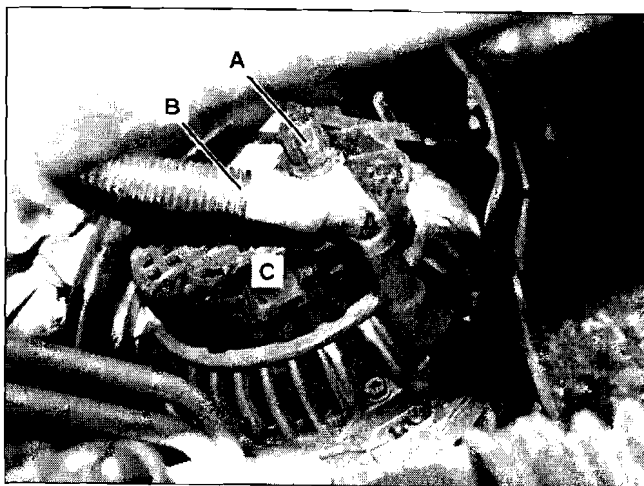

Figure 6
4. Remove cap (A, Figure 6) and disconnect starter wiring harness (B) from alternator (C).